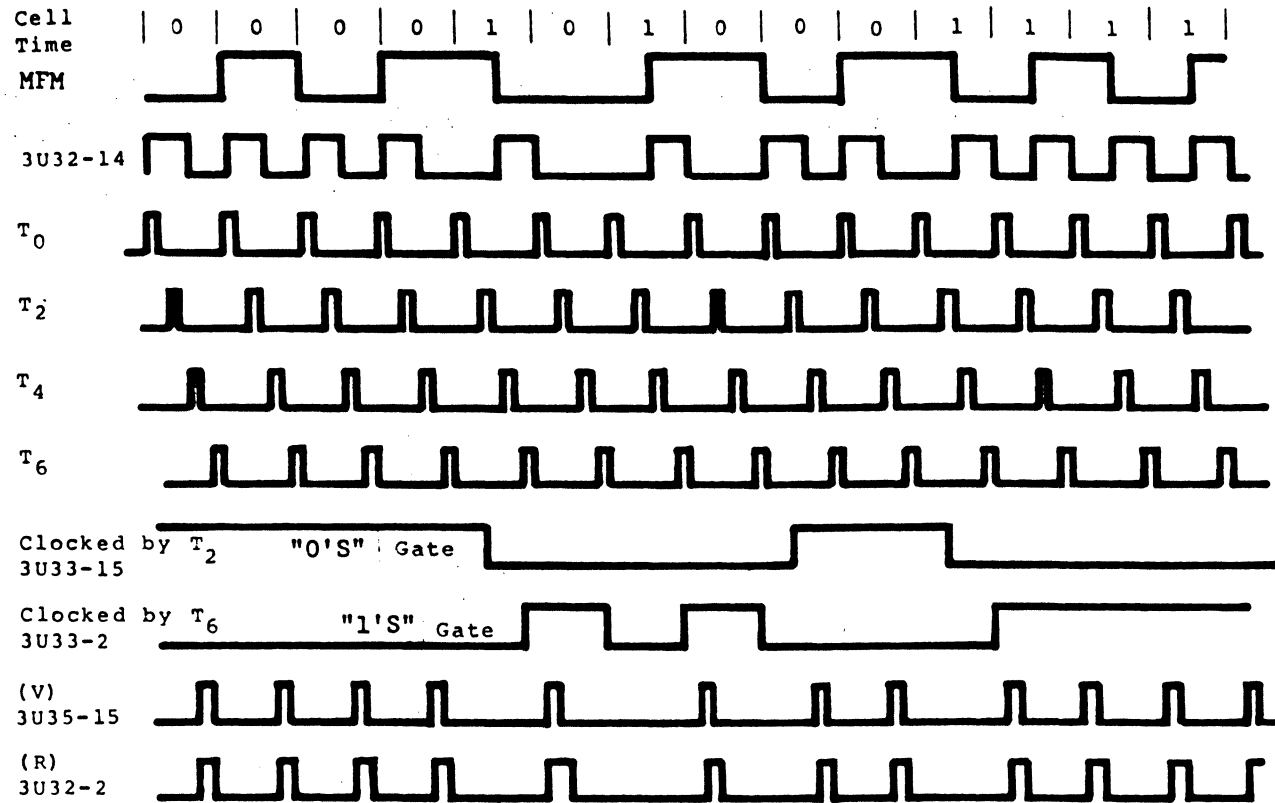
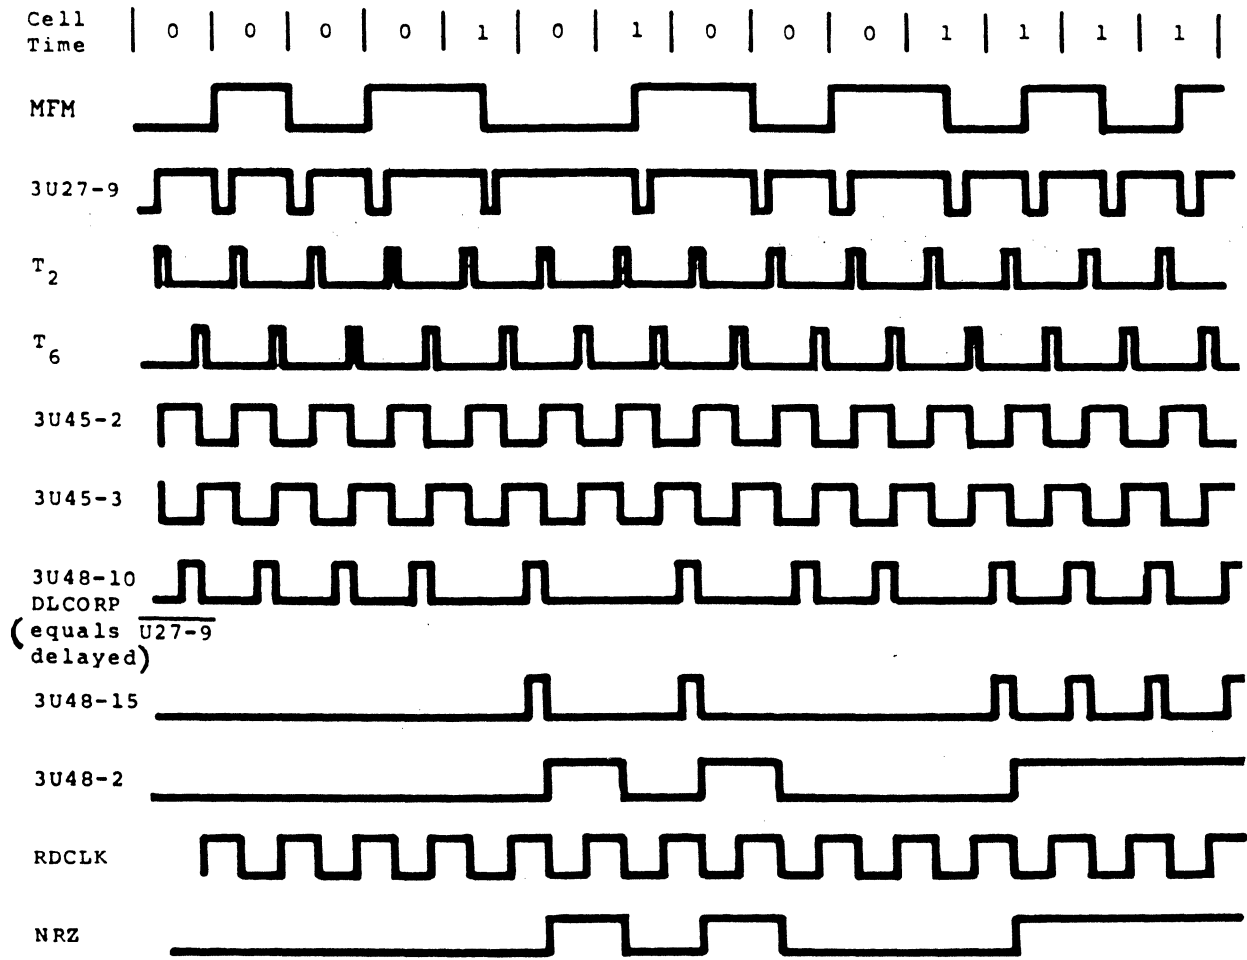

Figure 4-32
Figure 4-35
The remaining problems of missing transitions on a 1/0 boundary to reference (R) is compensated for by also deleting a transition on variable (V). Since both (R) and (V) have deleted the same transition, no phase or frequency disturbance occurs to the PLL. Figure 4-32 shows the timing of the PLL system upon receipt of a typical data pattern.
The conversion of MFM data to NRZ and related read clock is done by 3U45, 3U48 and related circuitry. Figure 4-35 shows the waveforms related to MFM decoding. Signals RDATA1, and RDATA2 are shaped into pulses and "NOR'ed" to produce a negative transition for either a positive or negative MFM transition. Figure 4-35, 3U27-9 show the waveform expected. Times T2 and T6 are derived by the PLL (see Figure 4-32) set and reset 3U45 pins 2 & 3 as shown. Signal DLCORP is a delayed (by delay line 3DL3) and inverted by 3U32-3 signal whose delay time is one half of a cell time. In actual practice the leading edge of DLCORP is adjusted by the delay line 3DL3 to be the center of 3U45-3 waveform on an all "1's" or "0's" pattern. Integrated circuit 3U48 part 2 latches the signal from 3U45-3 as clocked by DLCORP. Integrated circuit 3U48 part 2 forms recovered NRZ "0's" and pulses for NRZ "1's". Integrated circuit 3U48 part 1 shifts data from U48 part 2 to develop recovered NRZ. Integrated circuit 3U49 converts NRZ and Read Clock (RDCLK) to TTL levels for the I/O board interface.